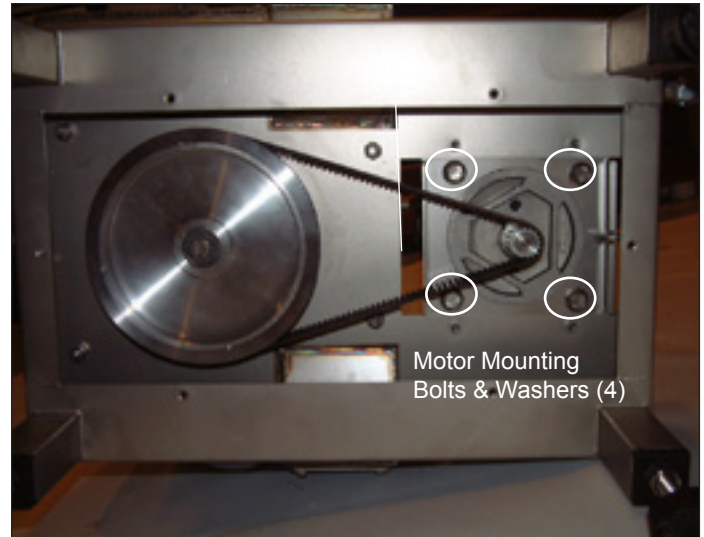

Figure 15. Auger Motor Mounting
13. Remove four (4) bolts and washers securing auger motor from underside of unit, then remove motor (Figure 15).
14. Install new motor with washers and bolts finger tight (Figure 15).